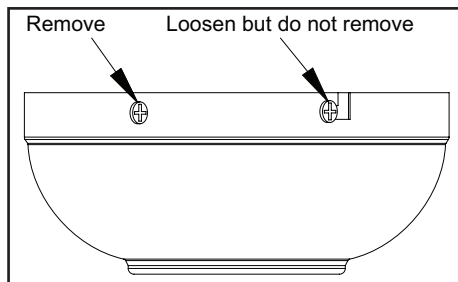

Figure 6
2. Remove the mounting bracket from the canopy by loosening the four screws on the top of the canopy. Remove the two non-slotted screws and loosen the slotted screws. This will enable you to remove the mounting bracket. (Figure 6)